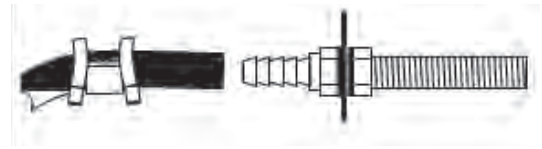

fig. 6
- K. Slide air line clamp over the air line. Push air line onto fitting covering all barbs, with pliers slide the air line clamp forward until it fully covers the barbed section (Figure 6).
I. Slide a clamp onto the air line and push the air line over the fitting, covering all the barbs. With pliers slide the air line clamp forward until it fully covers the barbed section (Figure 6).